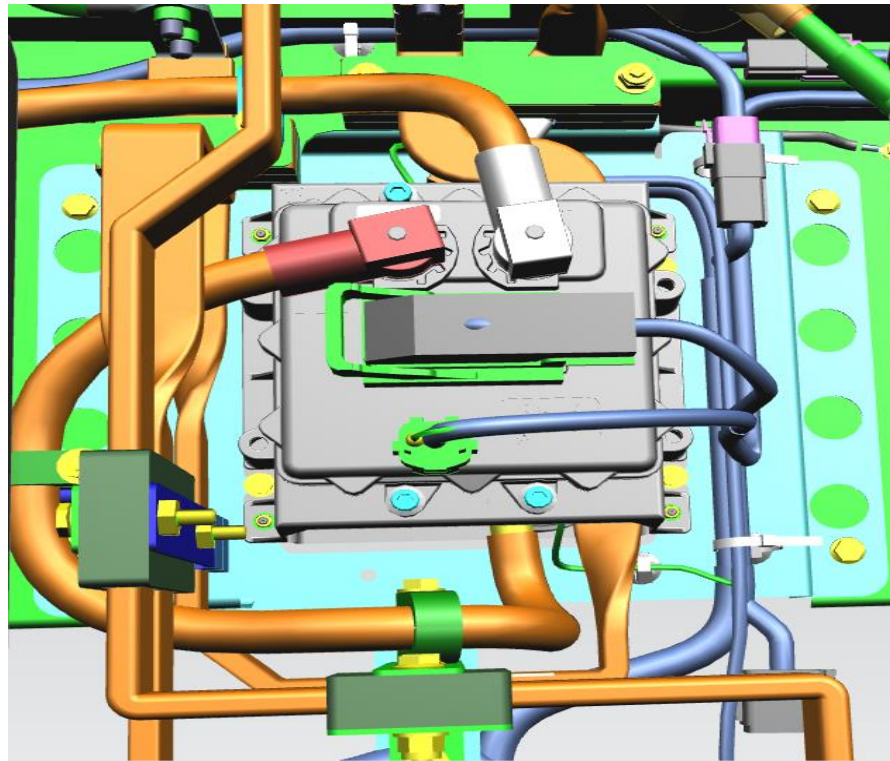

Figure 22: CMS/EDM located in ESS
80. Using an appropriate voltmeter and before removing any MSD(s), confirm voltage is present between the positive in terminal on the CMS/EDM and negative in terminal on the CMS/EDM. See Figure 22.
81. Using an appropriate voltmeter confirm that **NO** voltage is present between the positive out terminal on the BDU contactor and negative out terminal on the BDU contactor. See Figure 22.